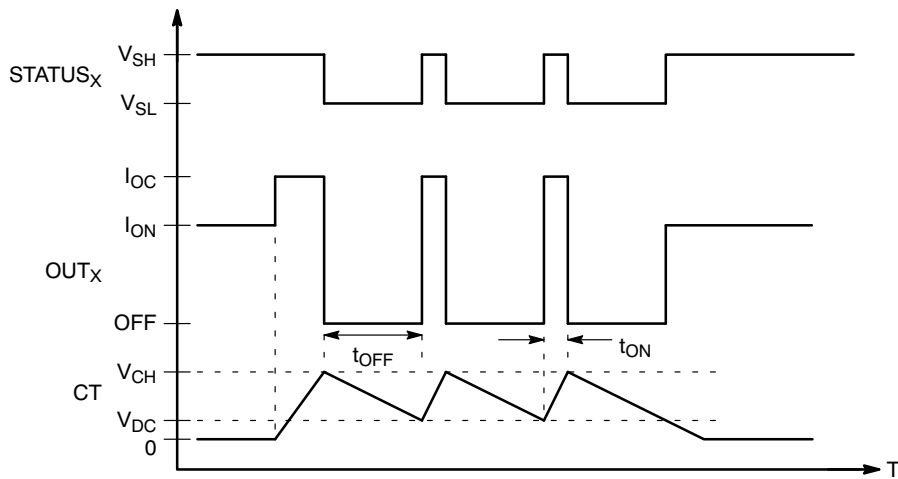

Figure 5. Overcurrent, Status and Duty Cycle Timing
9. During overcurrent, the STATUS outputs will be modulated at the overcurrent duty cycle rate. See Figure 5.
Overcurrent detection circuitry is provided in both the low-side and high-side drivers of each half-bridge output. When activated, the overcurrent detectors trigger an internal timer which causes both half-bridge drivers in the same channel to be modulated at 4% (Typ.) duty cycle. The timer also activates the channel's STATUS output, causing it to be similarly modulated (see Figure 5.) Upon removal of the fault condition, the channel automatically resumes operation in its previously programmed mode and its STATUS output returns to a no-fault state.
current IDCH. Upon detection of overcurrent, charging current ICHG is switched on and the CT capacitor begins charging from zero towards the timer's upper threshold (VDH.) When the capacitor voltage crosses VDH the faulted channel's outputs are switched off and the channel's STATUS output is switched from VSH to VSL (see Figure 5.) The charging current is switched off, and the capacitor voltage decreases toward the timer's lower (VDL) threshold. Upon crossing the lower threshold, the channel's outputs are switched on and the channel's STATUS output returns to its VSH voltage. This behavior continues until the fault condition is resolved. If the fault condition is resolved before VDH is reached, the timer is reset and no modulation of the previously faulted channel's half-bridge or STATUS outputs occurs.